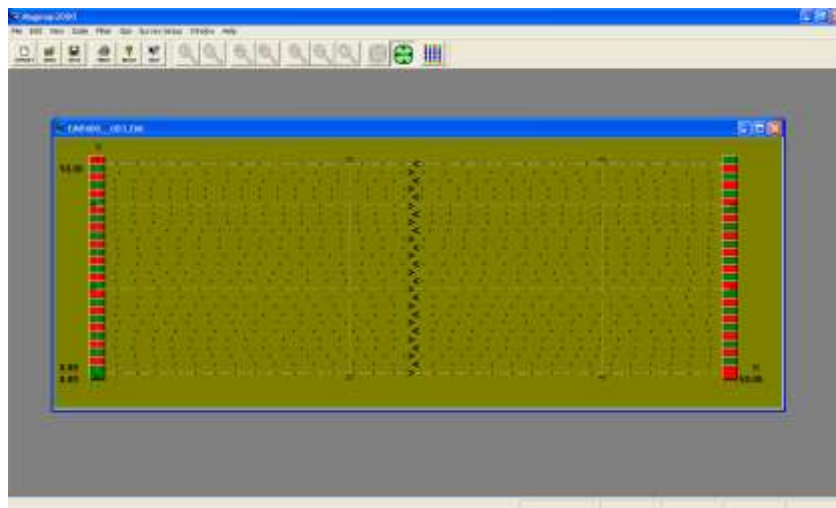

Figure 94: MagMap2000 *.EMI File Grid Display.
interpolate the distances between the recorded readings correctly. In the following example the data file is an xLBZ grid with X and Y origin at zero, and an X and Y maximum of 50. The Step is set to one (1) and the Line Spacing has been set to two (2). The distance between the marks has been set at 50 (the line length). This interpolated grid is illustrated in Figure 94.